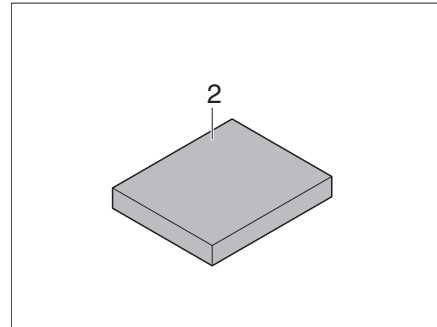

Fig. 189 Additional cushion
- Lay the additional cushion (Fig. 189,2) in the middle on the table.